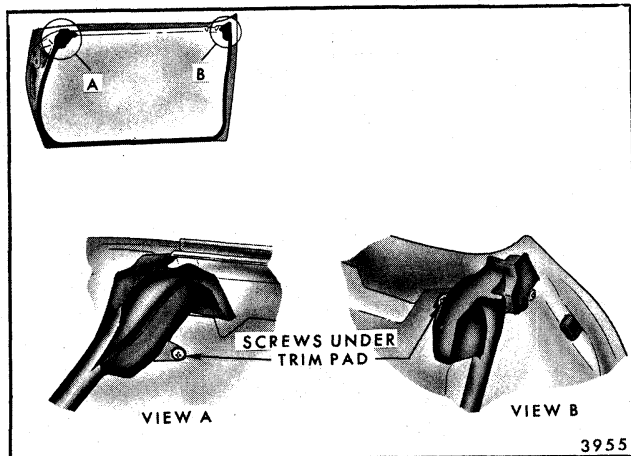

Fig. 5-23-Door Weatherstrip - Hardtop Styles
1. On all hardtop and convertible styles, remove upper portion of door trim pad to gain access to weatherstrip fasteners hidden under trim assembly and remove fasteners (Fig. 5-23).